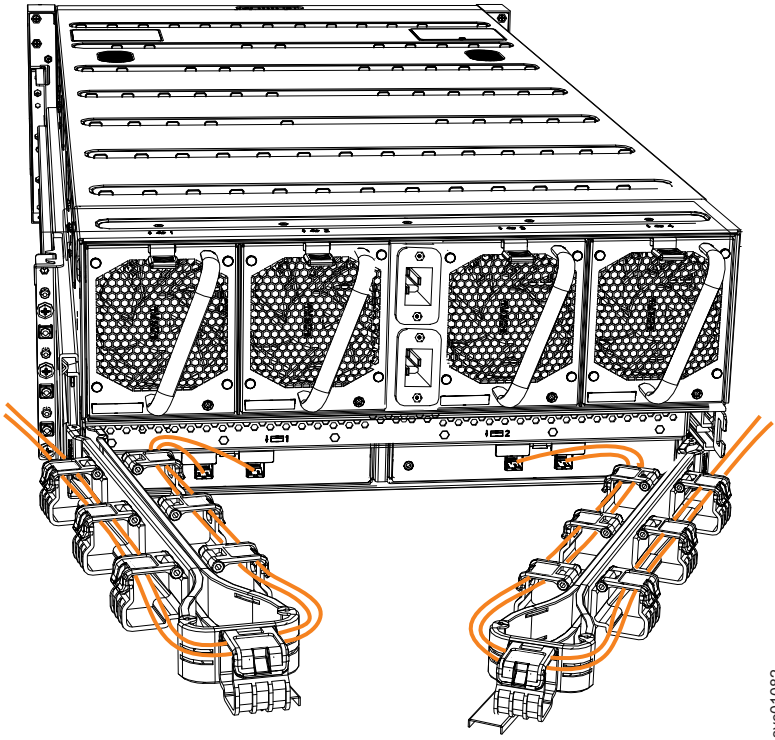

Figure 79. Example of SAS cables routed through the cable management arms
8. Route the SAS cables through the cable management arms, as shown in Figure 79 on page 225.